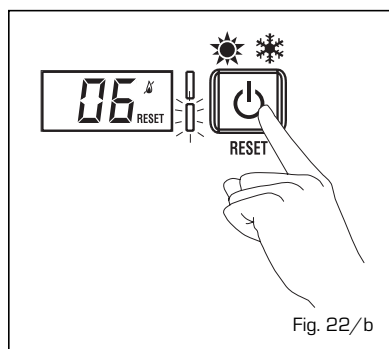

Fig. 22/b
- SAFETY THERMOSTAT ERROR ALARM 07 (fig. 22/c)